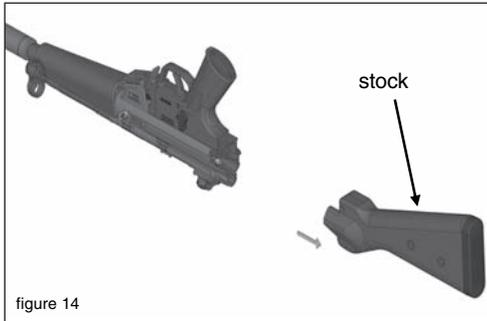
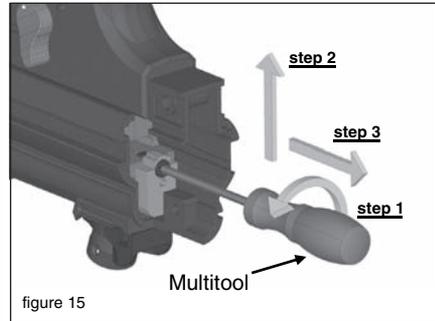

figure 14
figure 15
5. Remove the stock (*figure 14*) and unscrew the breech-fixing-part with the multitool (*figure 15*)
6. Put the breech fixing part into the receiver with the multi-tool and move the breech fixing part into its slot exactly in front of the breech housing (see figure 15 and 16 on page 23)